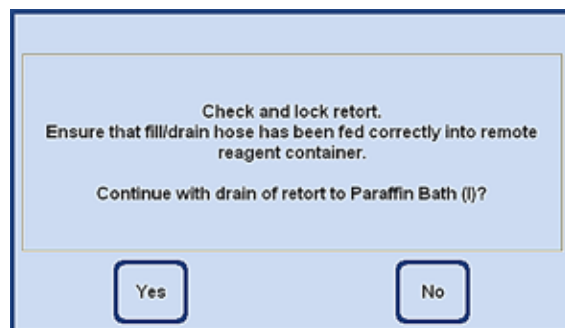

Fig. 184
- The following security prompt must be confirmed in order to continue (Fig. 184).